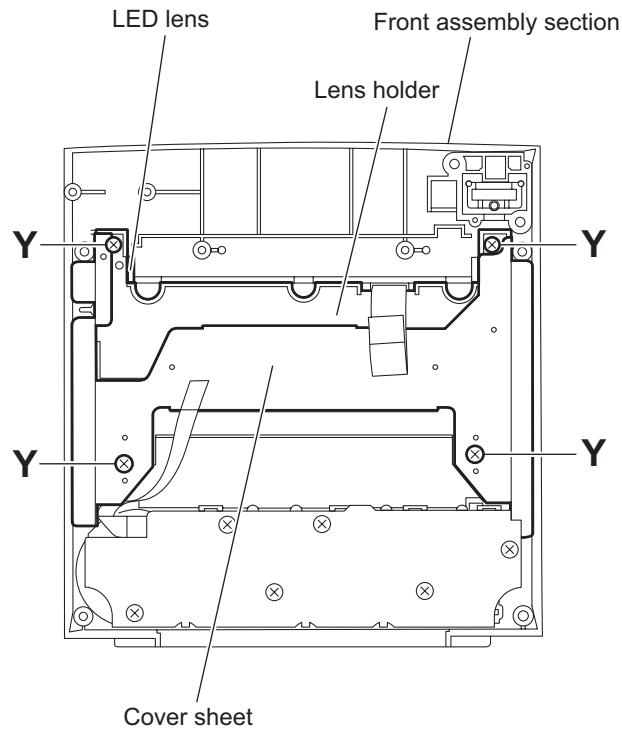

Fig.24
(See Figs.24 and 25)
(1) From the inside of the front assembly section, remove the four screws **Y** attaching the lens holder. (See Fig.24.)
(2) Take out the lens holder with the LED lens and cover sheet. (See Fig.24.)